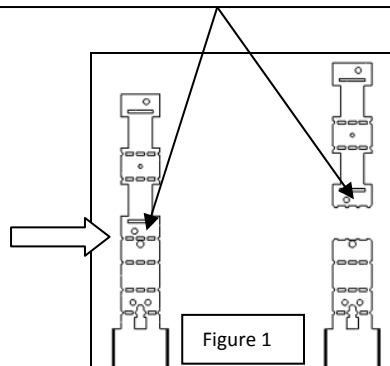

Figure 1
1. Break off tab at indicated location (See Fig. 1)